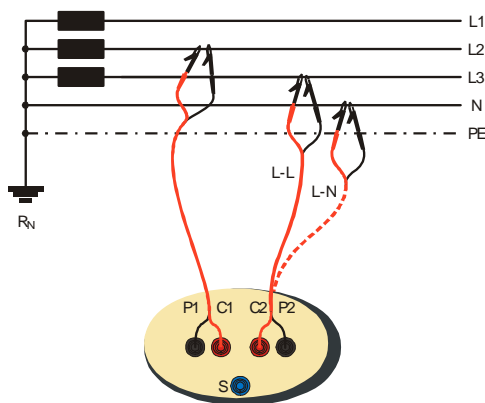

Figure 5.2: Phase-neutral or phase-phase line impedance measurement
Step 2 Connect the test cable to the item under test. Follow the connection diagram shown in figure 5.2 to perform line impedance measurement.